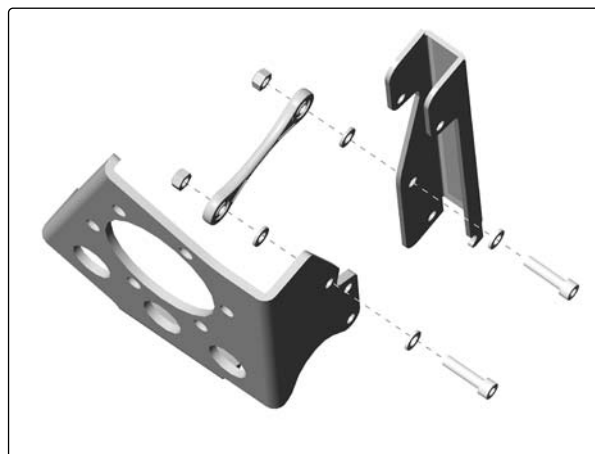

Fig. 23. Upper tie rod attachment between the chassis and slewing bracket attachment points.
4. Remove the appropriate tie rod. The tie rods are attached with two bolts each; see figures 23 and 24.